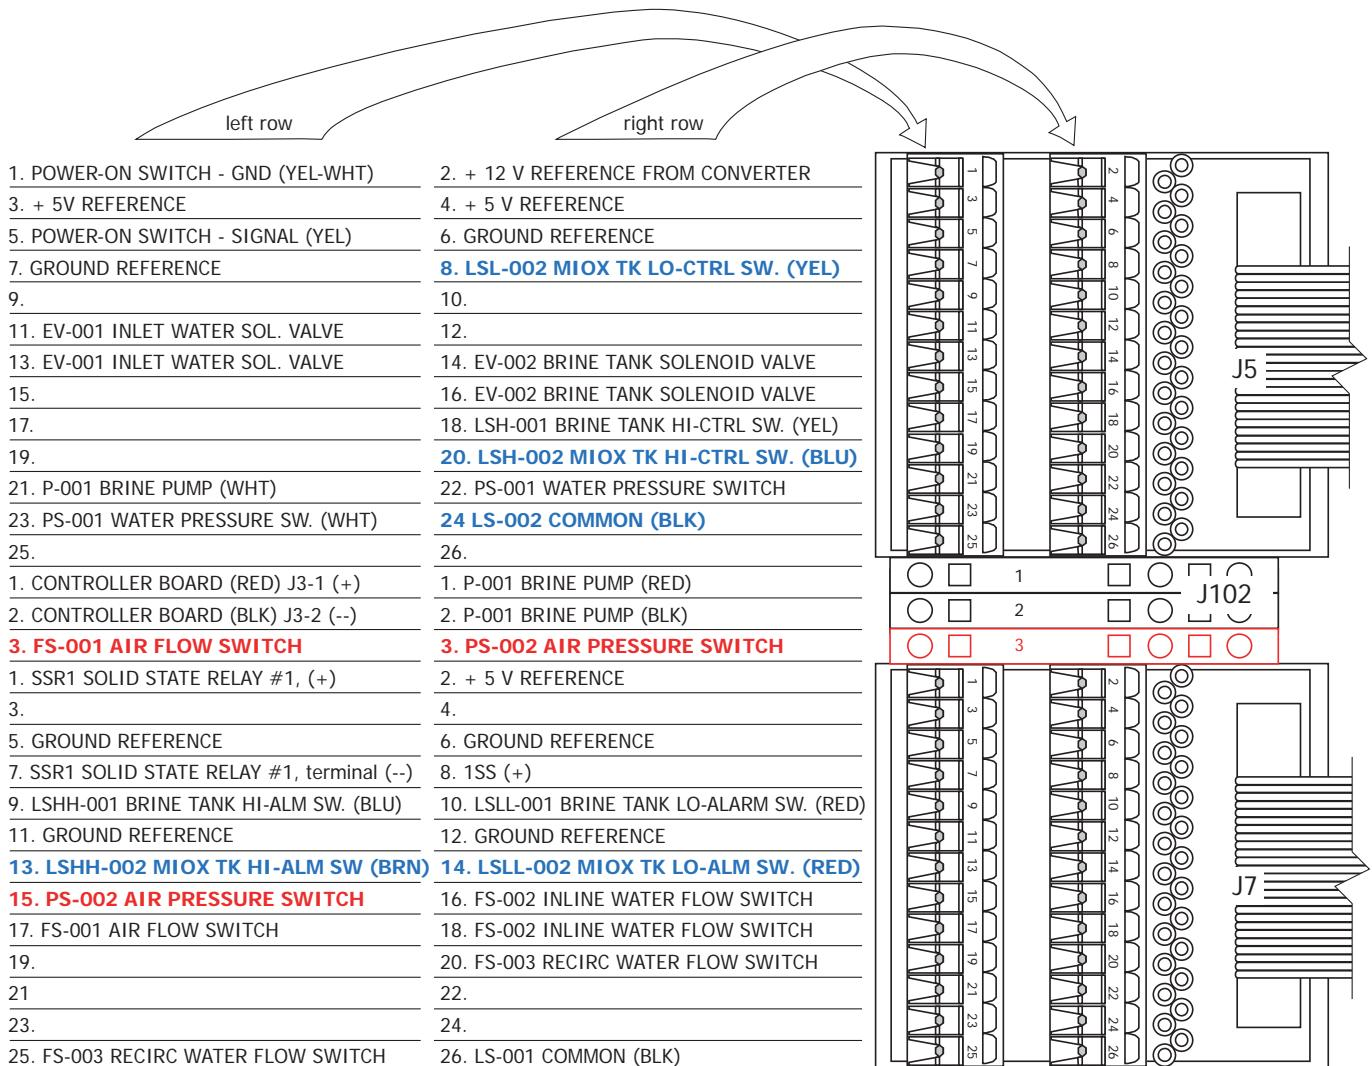
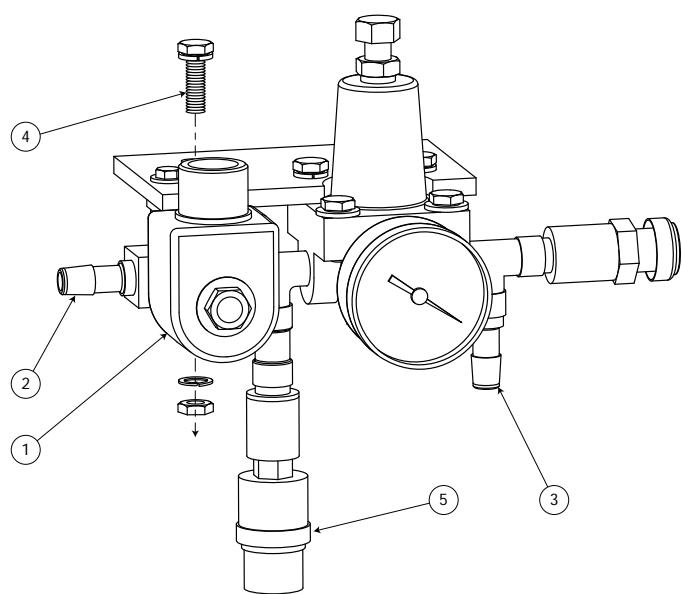

Figure 3. Input Block - changes shown bold and in color
Figure 6. Inlet Air Assembly
- g. Reinstall the tank cover with the new level switch, taking care to insert the end of the level switch into the recess (9) in the bottom of the tank. Secure it in place with the new hardware from the upgrade kit.
- h. Use the leads left in the conduit in step c above to pull the electrical leads of the new switch through the conduit. Attach them to terminals J5-08, J5-20, J5-24, J7-13, and J7-14 (shown in blue in Figure 3) in the control panel in place of the original leads.
- i. Reinstall the cap (5) on the cover.
(Figure 6 except as indicated)
- a. Disconnect the air solenoid valve's coil (Figure 6, 1) from the top of the valve stem.
- b. Disconnect the two air hoses from the air assembly's inlet (2) and outlet (3) hose barbs.
- c. Remove the two screws (4) securing the inlet air assembly to the frame and remove the inlet air assembly.
- g. Install the new terminal block 8065-10 in section J102 of the input block (see Figure 3).
- h. Using the strain relief provided with the upgrade kit, insert the electrical leads from the new air pressure switch (Figure 6, 5) into the control panel through the second hole in the control panel (left open in step IId).
- i. On the input block (shown in red in Figure 3), remove the air flow switch lead from J7-15L and attach it to J102-3L.